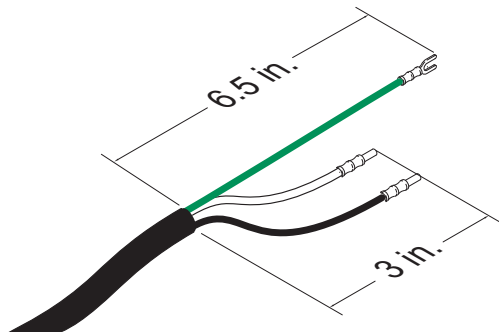

FIG. 4: Power Cord
- Add ferrules as necessary. See Fig. 4.